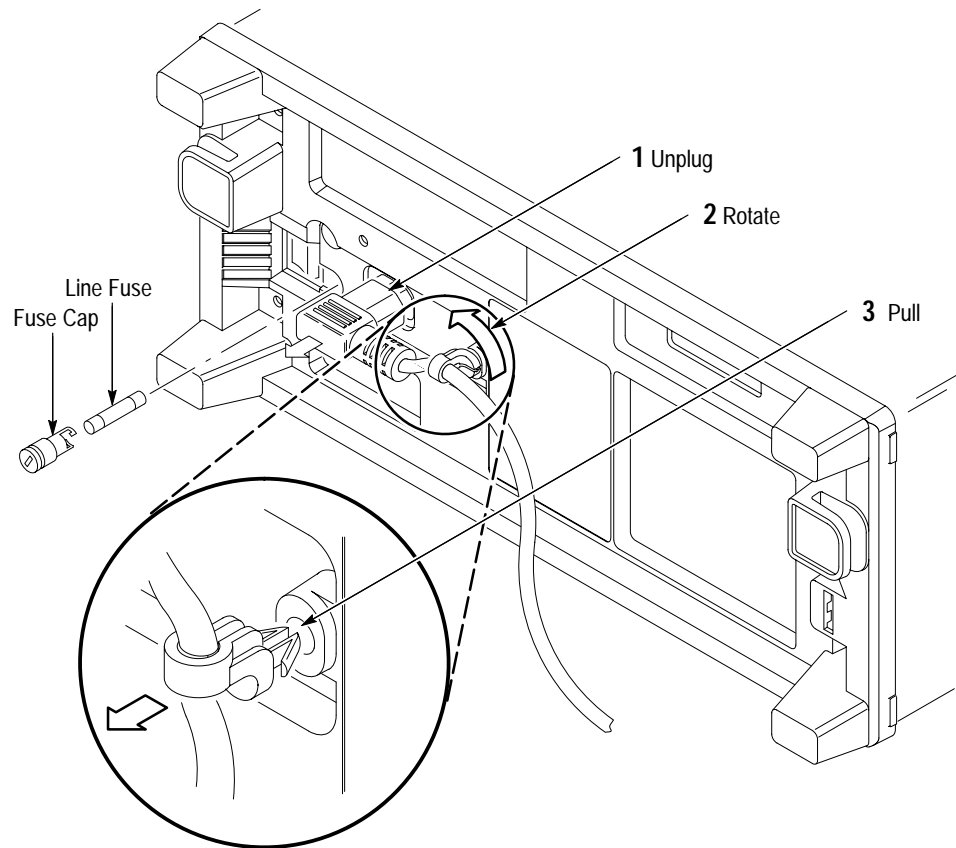

Figure 6-5: Line Fuse and Line Cord Removal
3. *Remove line fuse:* Find the fuse cap on the rear panel. (See Figure 6-5.) Now, remove the fuse cap by turning it counterclockwise using a flat-bladed screwdriver, and remove the line fuse. Reverse procedure to reinstall.
4. *Remove line cord:* Find the line cord on the rear cover. (See Figure 6-5.) Now, remove the line-cord retaining clamp by first unplugging the line cord from its receptacle. Next, grasp both the line cord and the retaining clamp and rotate it 90 degrees counterclockwise. Pull the line cord and clamp away to complete the removal. Reverse procedure to reinstall.